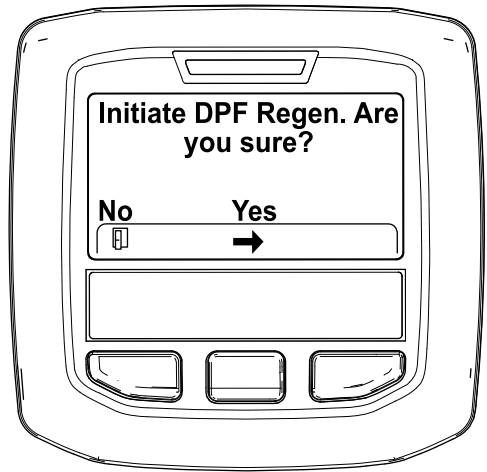

Figure 50
4. When the "Initiate DPF Regen. Are you sure?" message displays, press the center button (Figure 50).